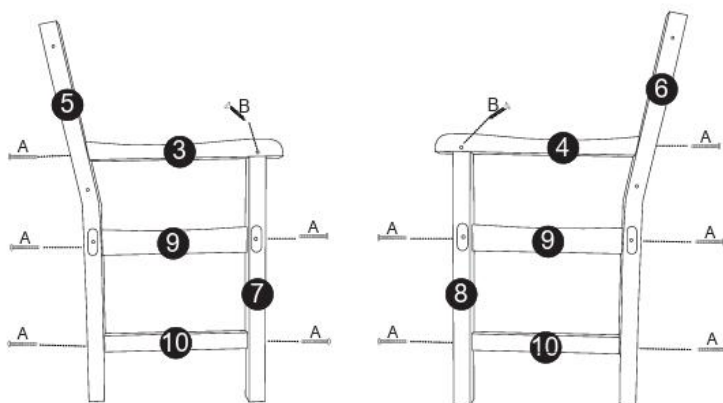

Figure 1-2
STEP 1: Locked screw A and B into legs as below figure1-2.